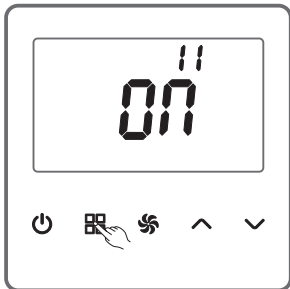

Figure 17
As shown in the Figure 17, on the parameter setting page, press  (MODE) to switch the option number to 11.  (UP) or  (DOWN) is provided to allow a switch of ON and OFF.